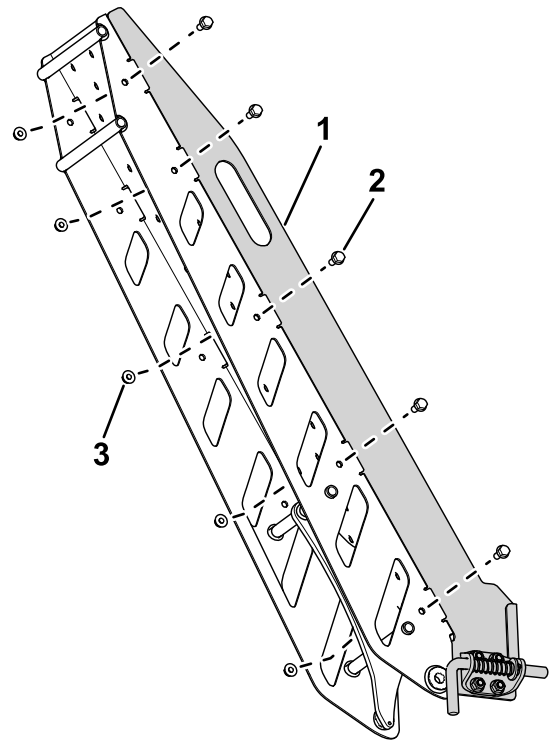

Figure 10
2. Use 10 bolts (5/16 x 3/4 inch) and 10 nylock nuts (5/16 inch) to secure the guide plate to the ramp assembly (Figure 10).